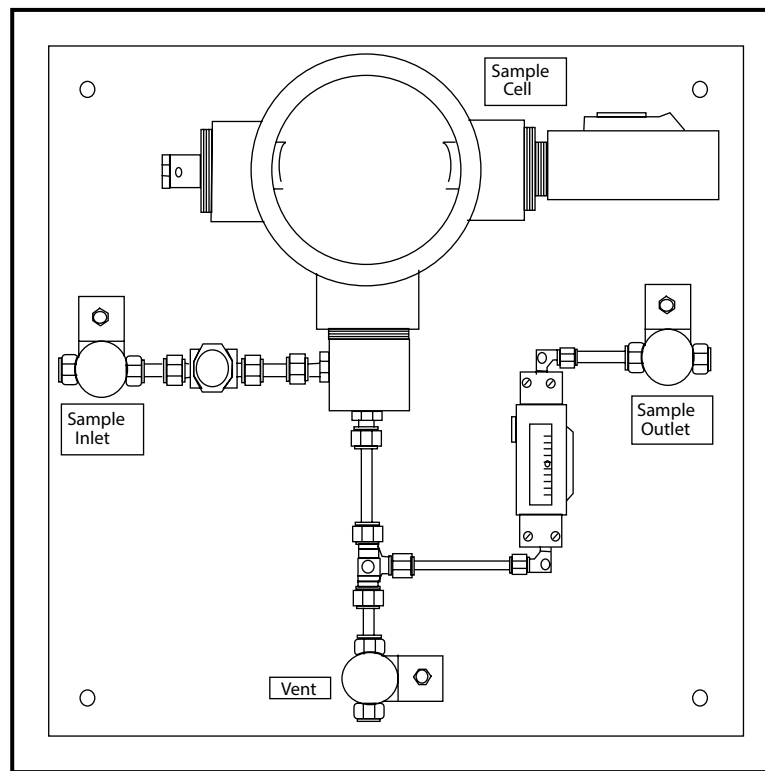

Figure 79: Typical Moisture Sample System
- Typically, sample systems should be kept very simple. They should contain as few components as possible and all or most of those components should be located downstream of the measurement probe. *Figure 79* on the next page shows an example of a simple sample system consisting of an explosion-proof housing with a sample cell, a filter, a flow meter, a vent valve and two shut off valves, one at the inlet and one at the outlet.